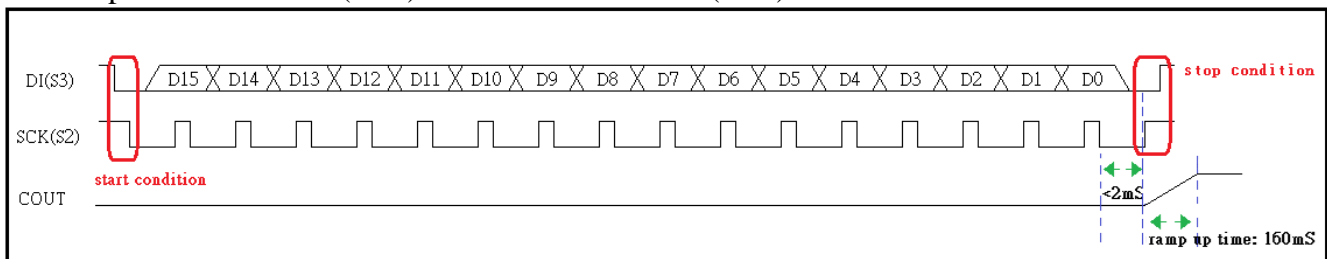

Fig. 16 Power-Up command timing
- a. Command timing reference Fig. 16 Power-Up command timing.